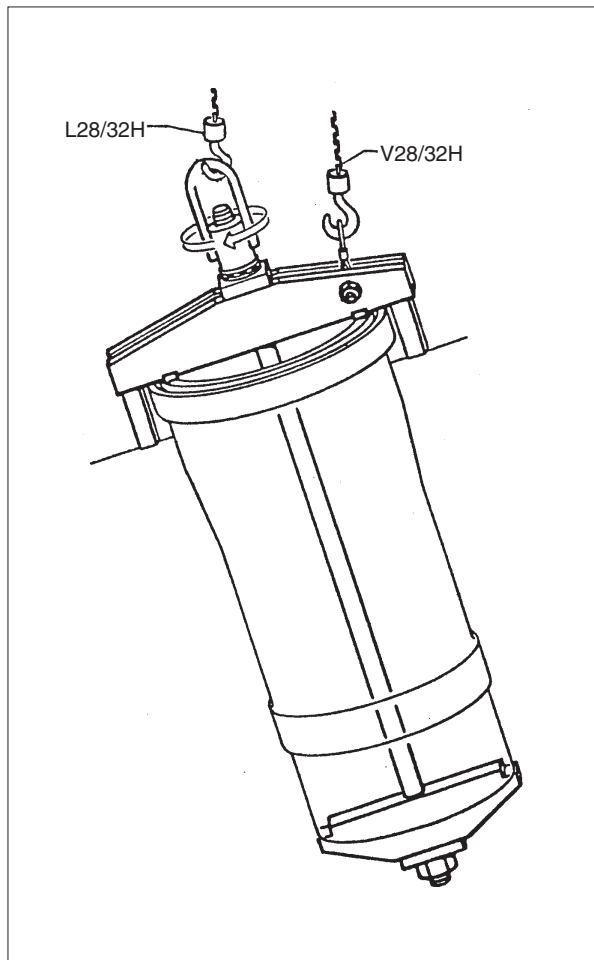

Fig. 2.
- 3) Mount the lifting tool as shown, see fig. 2.